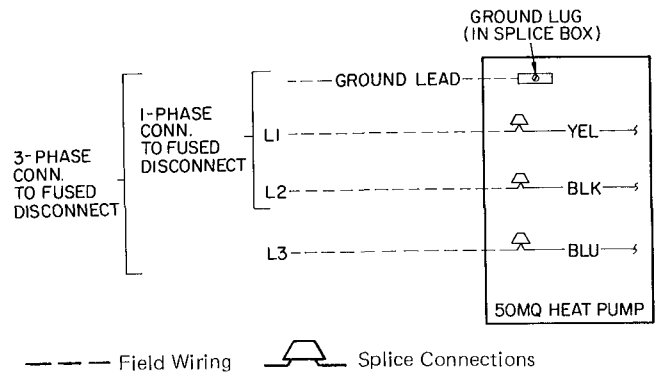

Fig. 6 - Line Power Connections
Step 9 – Connect Ground Lead to Ground Lug in Splice Box before connecting power wiring. See Fig. 6. Connect line power leads to yellow and black pigtailed on single-phase units or yellow, blue and black pigtailed on 3-phase units. Use wire nuts provided. Tape each connection. Wire nuts are suitable for copper or aluminum wire since they contain joint compound.